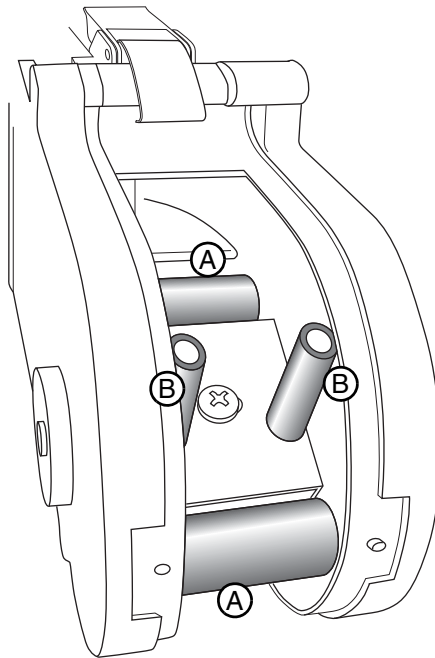

Figure 5-2 Rollers (A) and guides (B) on the pump rotor
- b. **Pump Rotor** – Look for debris build-up on the pump roller or guide surfaces (Figure 5-2). Clean when needed (section 5.1.3).